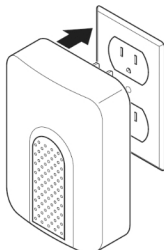

Figure 2
2. **Plug in wireless chime (see Figure 2).**